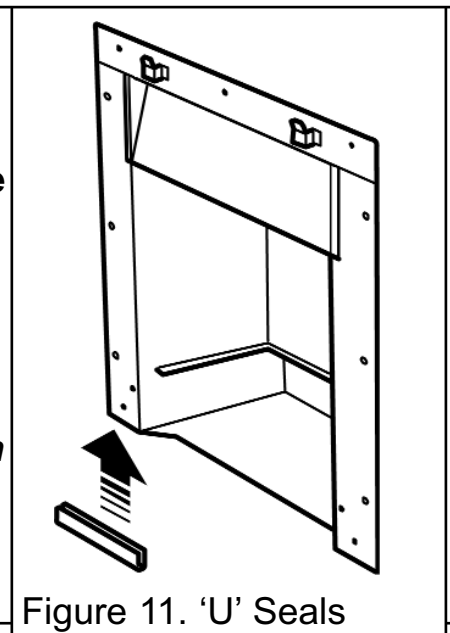

Figure 11. 'U' Seals
2. Fit the two “U” section seals to the bottom edges of the hotbox side flanges (See figure 11).